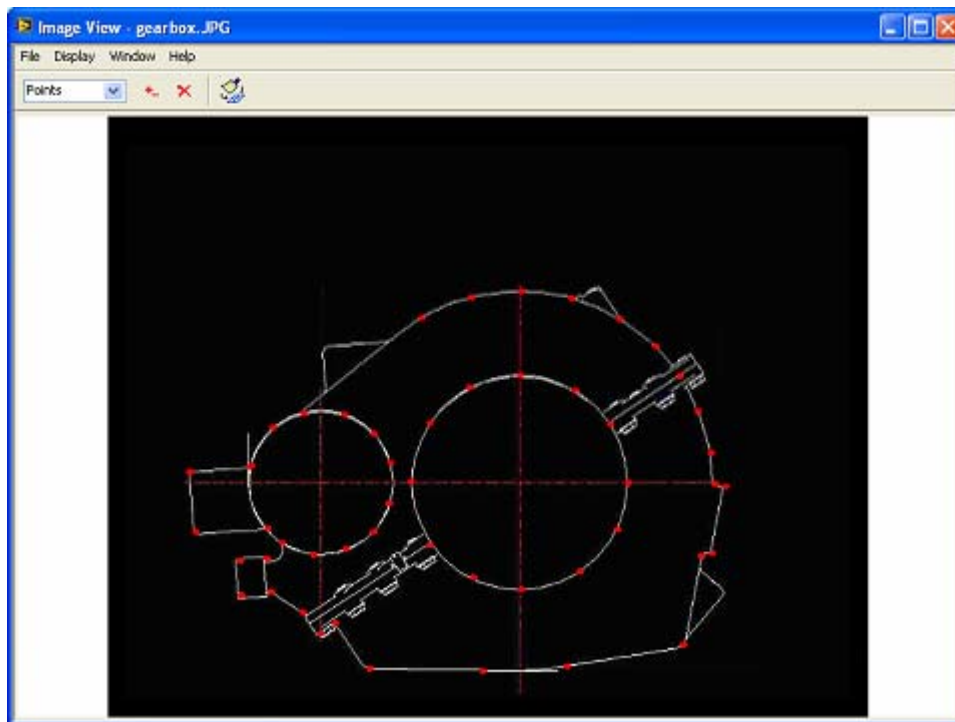

Figure 2-9 Points of 2D structure profile
- Repeat above step to add other points, as Figure 2-9 shows.